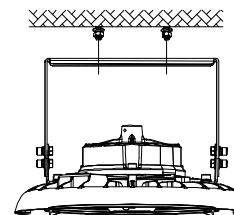
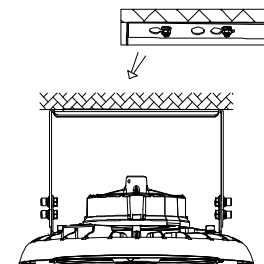

Figure 5
Figure 6
3. Align the bracket hole with the screw hole (see Figure 5), push the fixture to one side (see Figure 6), and secure it firmly.